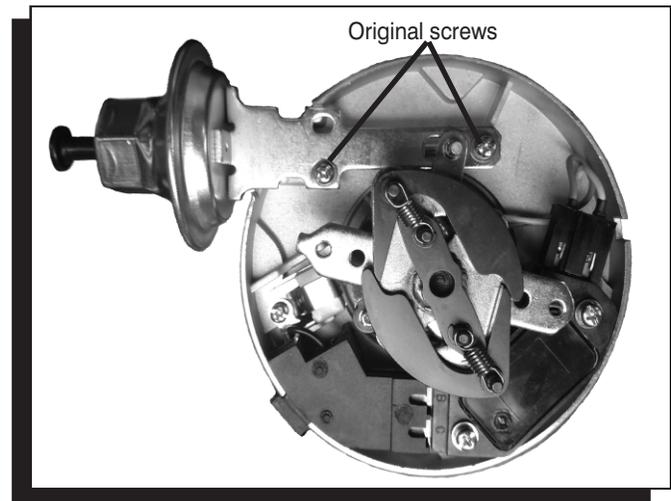

Figure 1.
2. Remove the original vacuum advance canister screws (Figure 1).